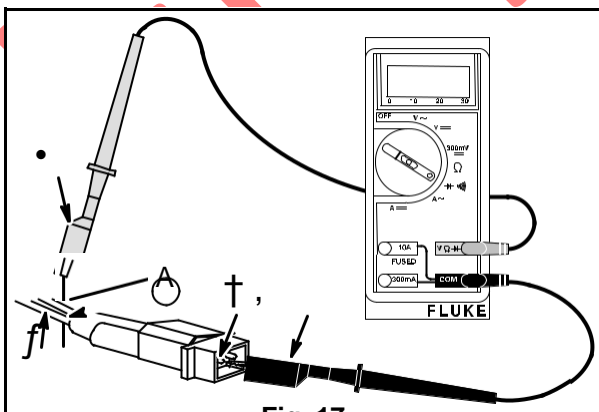

Fig. 17
Attach RED test lead clip (1) to point A and BLACK test lead clip (2) to DC output pin (6), **Fig. 17**. (It may be necessary to pierce wire with pin as shown.)